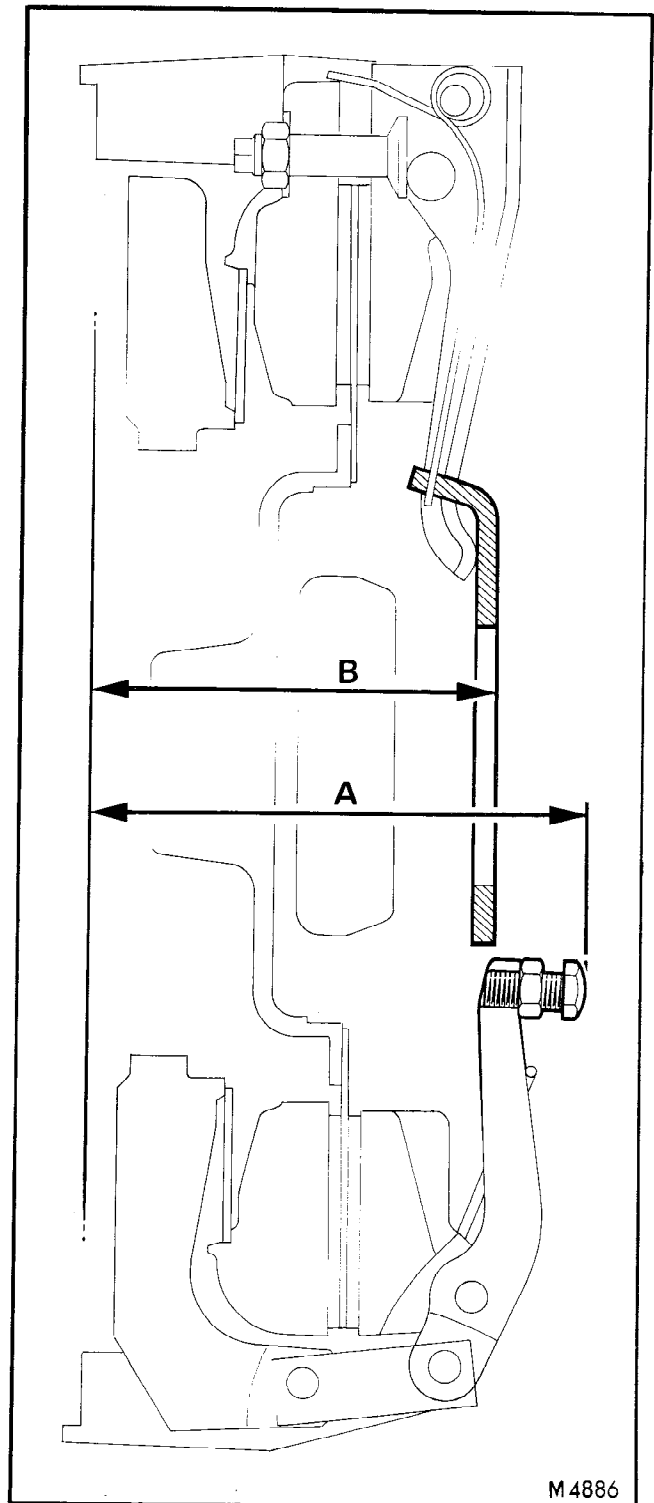

Fig. 3
32. Set the position of the main release levers by adjusting the screws, then lock the screws with the locknuts. Measure from the recessed face of the clutch cover. Refer to Fig. 3 and Data for the setting dimension and tolerances.
33. Set the position of the release plate by turning the squared end of the adjusting screws, then lock the screws with the locknuts. Measure from the recessed face of the clutch cover. Refer to Fig. 3 and Data for the setting dimensions and tolerances.